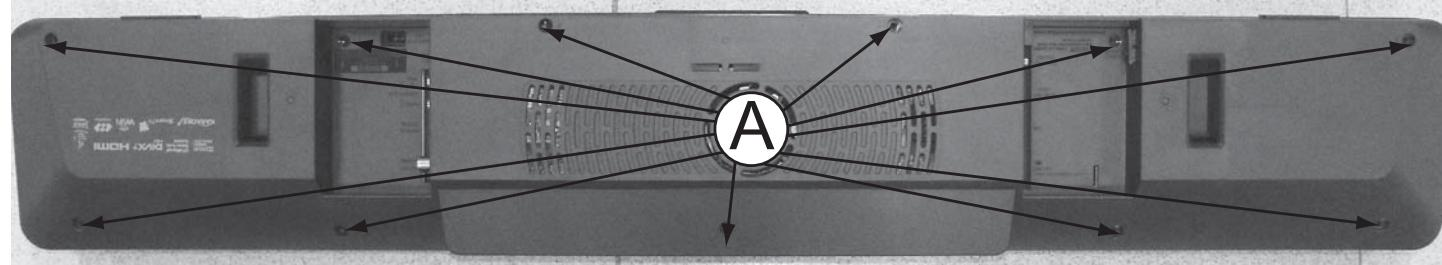

Figure 1
- 1) Loosen 11 screws "A" at the Back cover as shown in figure 1.